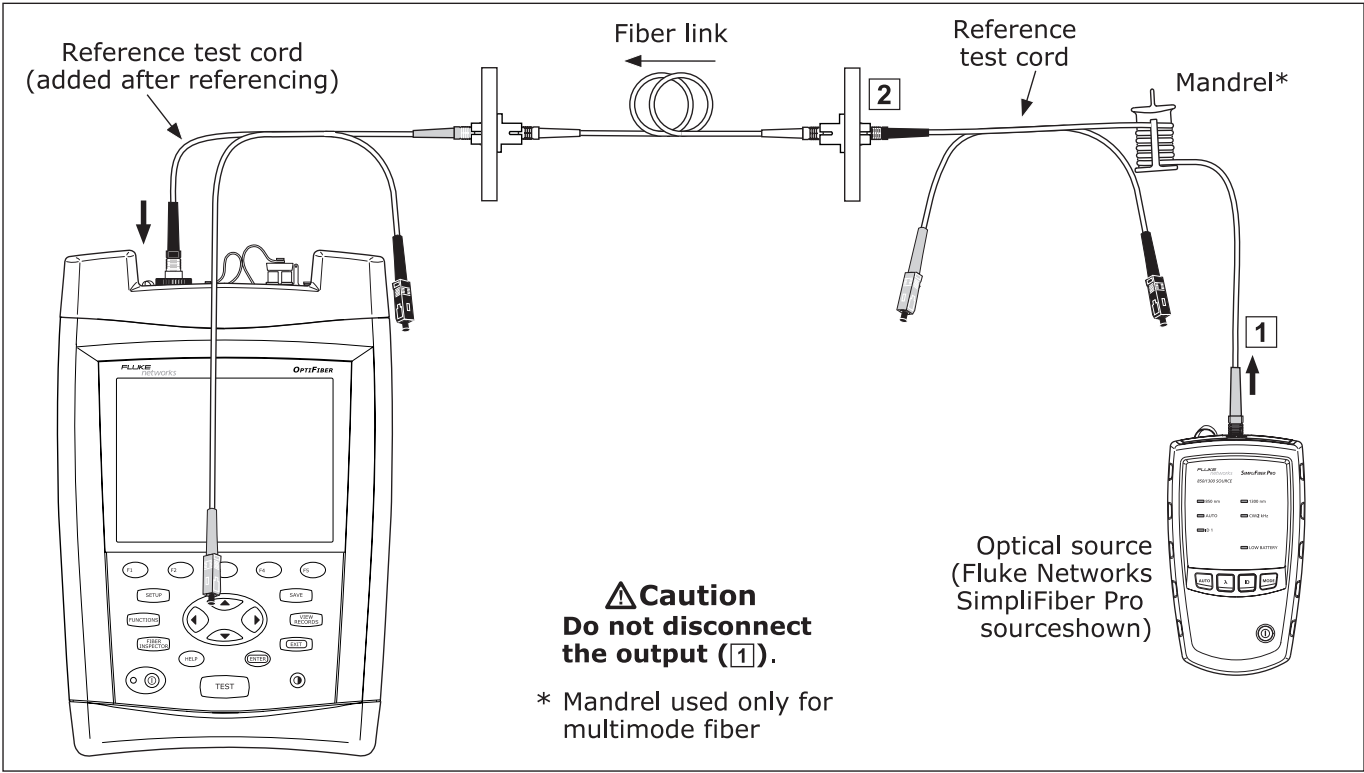

Figure 7-13. Far End Source Mode Test Connections (1 Jumper Method)
- 4 Connect the tester to the cabling as shown in Figure 7-13.